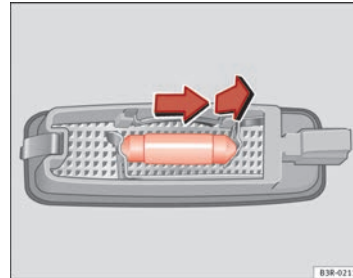

Fig. 228 Removing sun visor light
- Remove the bulb, moving it in the direction of the arrow and outwards ⇒ Fig. 228.